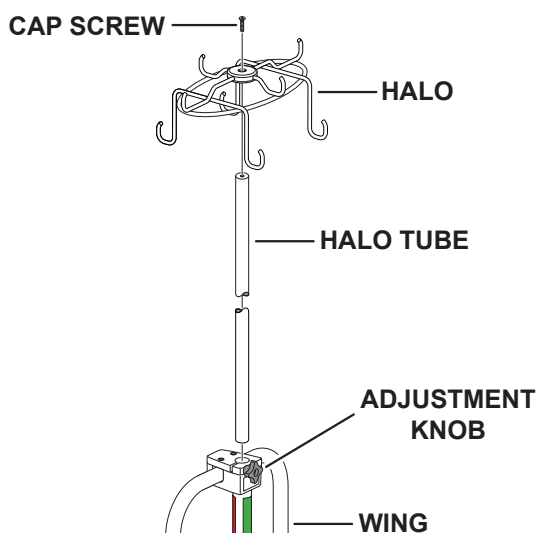

Figure 16. Halo Replacement
2. Loosen the wing adjustment knob and remove the halo assembly (Figure 16).